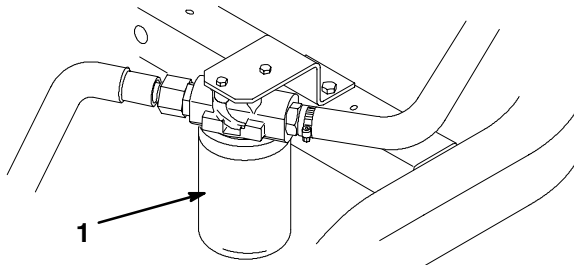

Figure 37
1. Clean the area around the filter mounting area (Fig. 37). Place a drain pan under the filter and remove the filter.